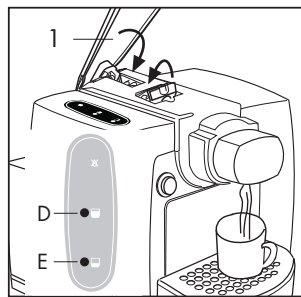

Fig. 12
- Fully lower the lever (1) and press either the large cup  (D) or small cup  (E) dispenser button depending on personal taste. **(Fig. 12)**
- To fully remove the pod, slowly lift the lever (1). If the pod is not ejected, open the hatch (15) and remove it.